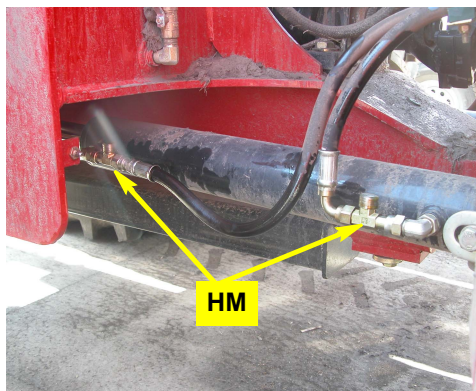

Figure 7b: Installed steering line run-tees
- b. Install the run-tees **HM** into the steering lines at each end of the steering cylinder then reconnect the steering lines (Figure 7b).